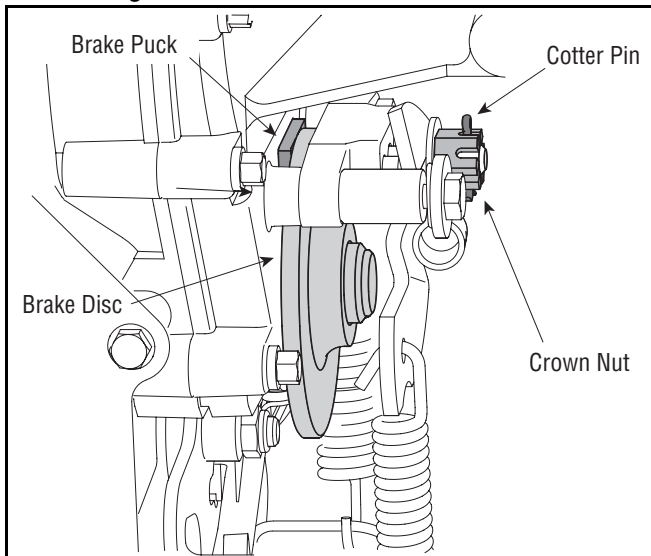

Figure 12
- Looking at the transmission from the right side of the tractor, locate the brake puck and brake disc. See Figure 12.
- Remove and discard the cotter pin which secures the crown nut to the assembly. See Figure 12.